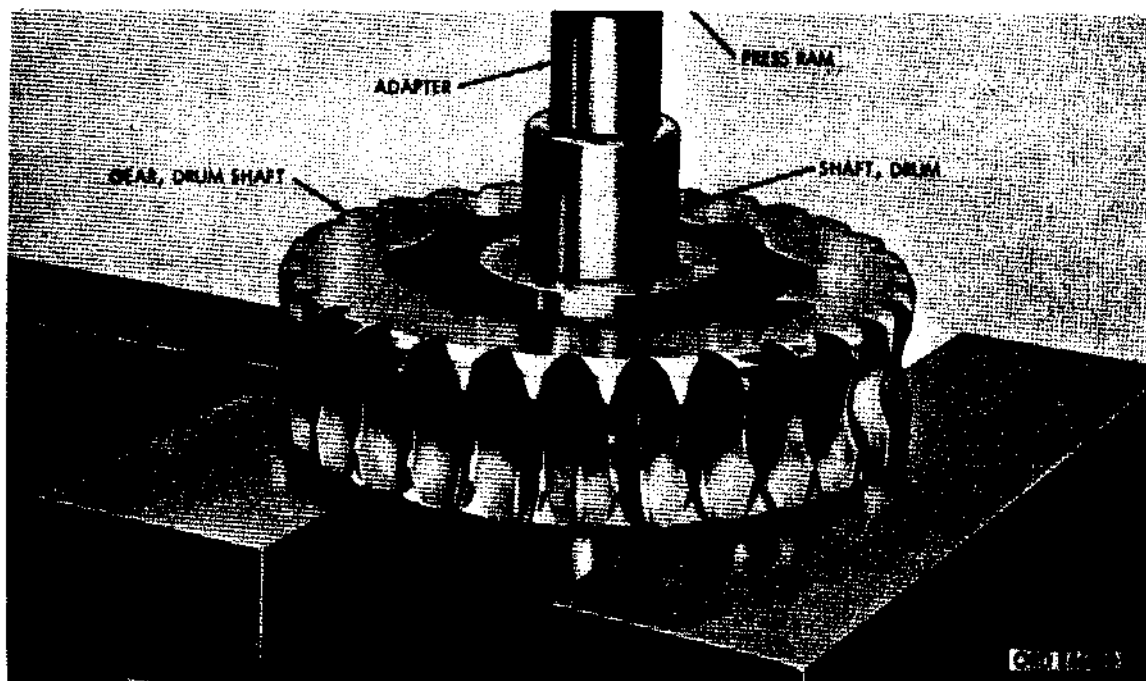

Figure 50. Pressing drum shaft from drum shaft gear
- (d) Press drum shaft from drum shaft gear (fig. 50) and remove two drum shaft gear keys from shaft.
(1) Cleaning.